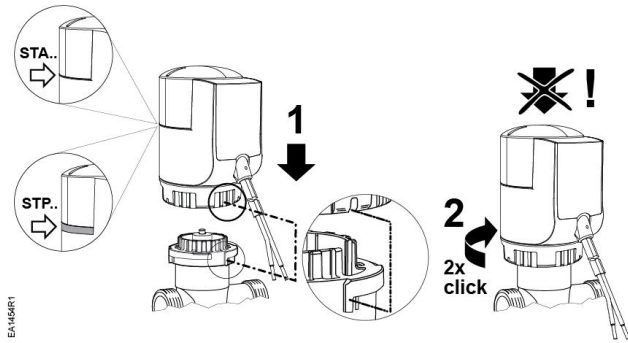

Figure 3.
- Place the actuator on the bayonet nut connected to the valve and twist the gray actuator bayonet ring (at the bottom of the actuator) clockwise until it clicks twice on the bayonet nut. See Figure 3.